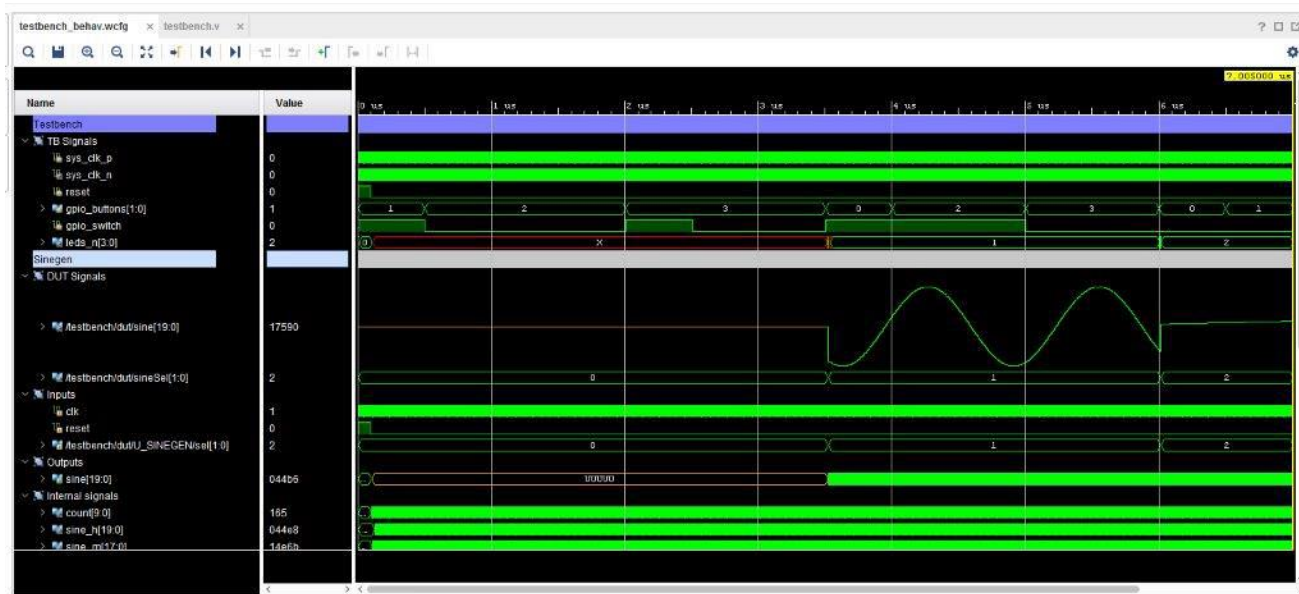

Figure 23: Simulation Waveform at Time 7005 ns
3. After the simulation is complete, click the **Zoom Fit** button  to see the whole simulation timeline in the Waveform window. Figure 23 shows the current simulation results.